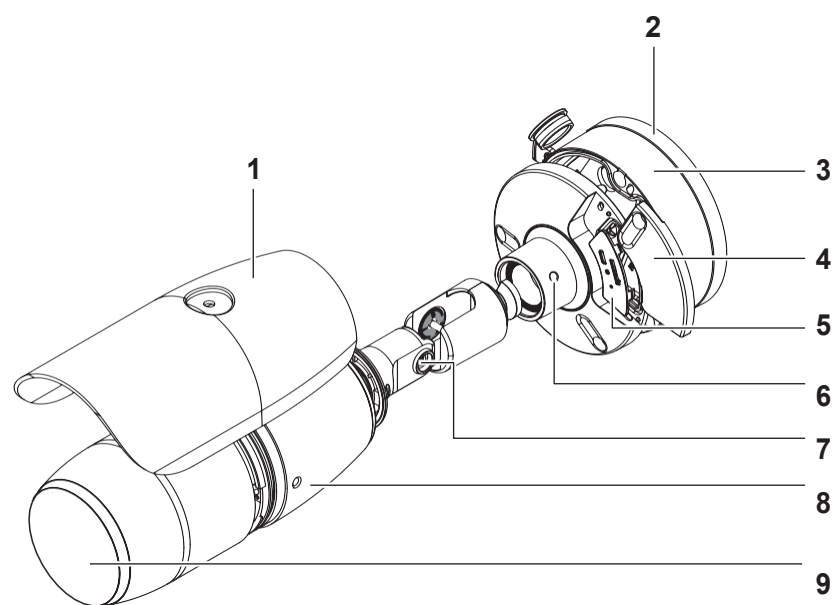

Figure 1
Camera Parts: Figure 1
4. Hold the mounting plate (2) (Figure 1) up to the surface and align the holes on the mounting plate with the Ø 5mm holes and securely attach the mounting plate to the surface with the four screws.
5. Unscrew the three screws on the camera base (3) (Figure 1) to remove the camera from the camera base.
10. Securely attach the camera body (8) (Figure 1) to the camera base with the three screws.
- i. Unlock the screw (6) (Figure 1) and tilt the camera body.
- ii. Unlock the screw (6) (Figure 1) and tilt the camera body.
1. Loosen the thumb-screw on the sun-shield cover (1) (Figure 1) to move the sun shield cover forward and backward over the camera body.